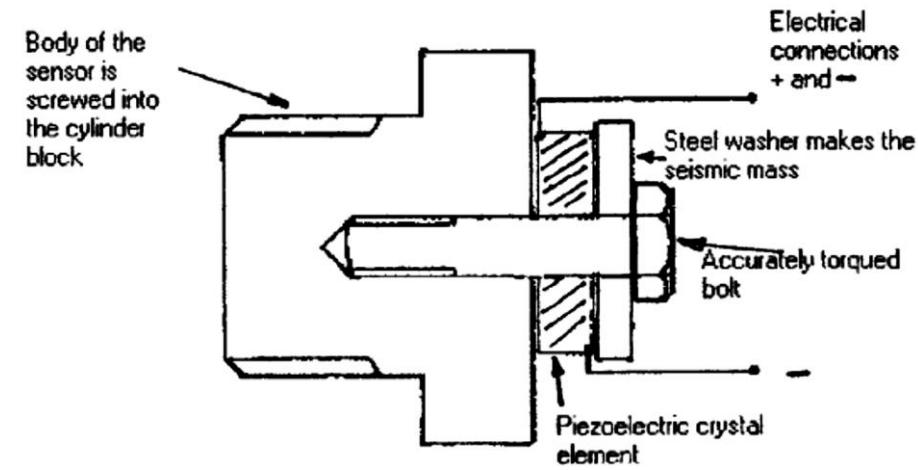

Fig. 5.11 The principle of the piezoelectric combustion knock sensor
- When knock has ceased the ECM will advance the ignition, in steps, back to its normal setting. The mechanism by which vibrations arising from knock are converted to electricity is illustrated in Fig. 5.11.